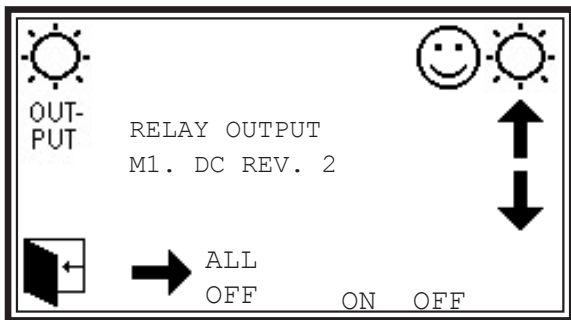

Fig 1
3. Press the right arrow ( Fig 1)
- Use M1. DC REV. 2 to control the diverter. (Fig1)